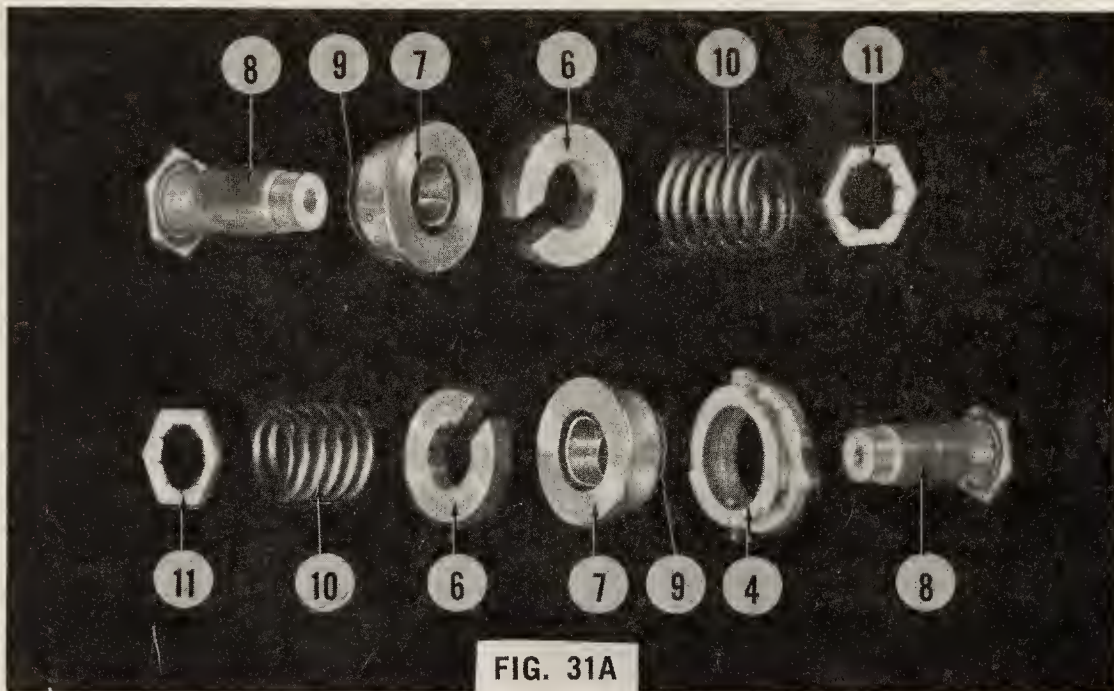

FIG. 31A
2. The flanged oilite bearing (9), (Fig. 31A) which is pressed into the hub (7) in each of the two slip clutches should be lubricated once a month so that the sleeve (8) will be lubricated as it revolves inside bearing (9).